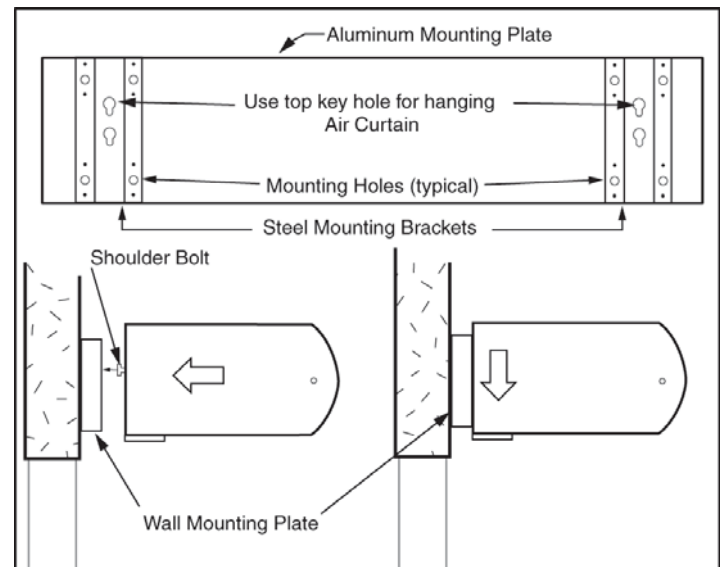

FIGURE 4 - Installing Air Door on Wall Mounting Plate
- I. There are two sets of keyhole slots on the wall mounting plate. *In low overhead installations the air door may be staged in the lower keyholes to provide clearance for electrical wiring and then moved to the higher holes after completion.* Raise the air door with the discharge opening facing down toward the floor. While holding the unit level, slide the heads of the shoulder bolts into the larger hole of the keyhole slots of the mounting plate. Lower the unit into place, keeping both ends level, allowing it to rest flush with the mounting plate. See Figure 4